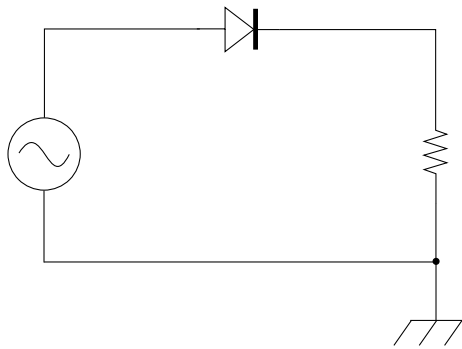

Figure 1: A basic half-wave rectifier circuit. An AC voltage source is connected to the anode of a p-n diode. The resistor represents the load of the circuit.
The p-n diode is of great importance in modern electronic applications. It is often used as a rectifier to convert alternative currents (AC) to direct currents (DC) by blocking either the positive or negative half of the AC wave. The present example simulates the transient behavior of a p-n diode used as the active component of a half-wave rectifier circuit -see Figure 1
In this example, a full level device simulation is made by connecting a 2D meshed p-n junction to a circuit containing a sinusoidal source, a resistor, and a ground (the half-wave rectifier circuit is displayed in Figure 1). In order to validate the results, the outputs of the full device simulation are compared to the circuit response obtained using a large signal diode model (see the electric circuit).